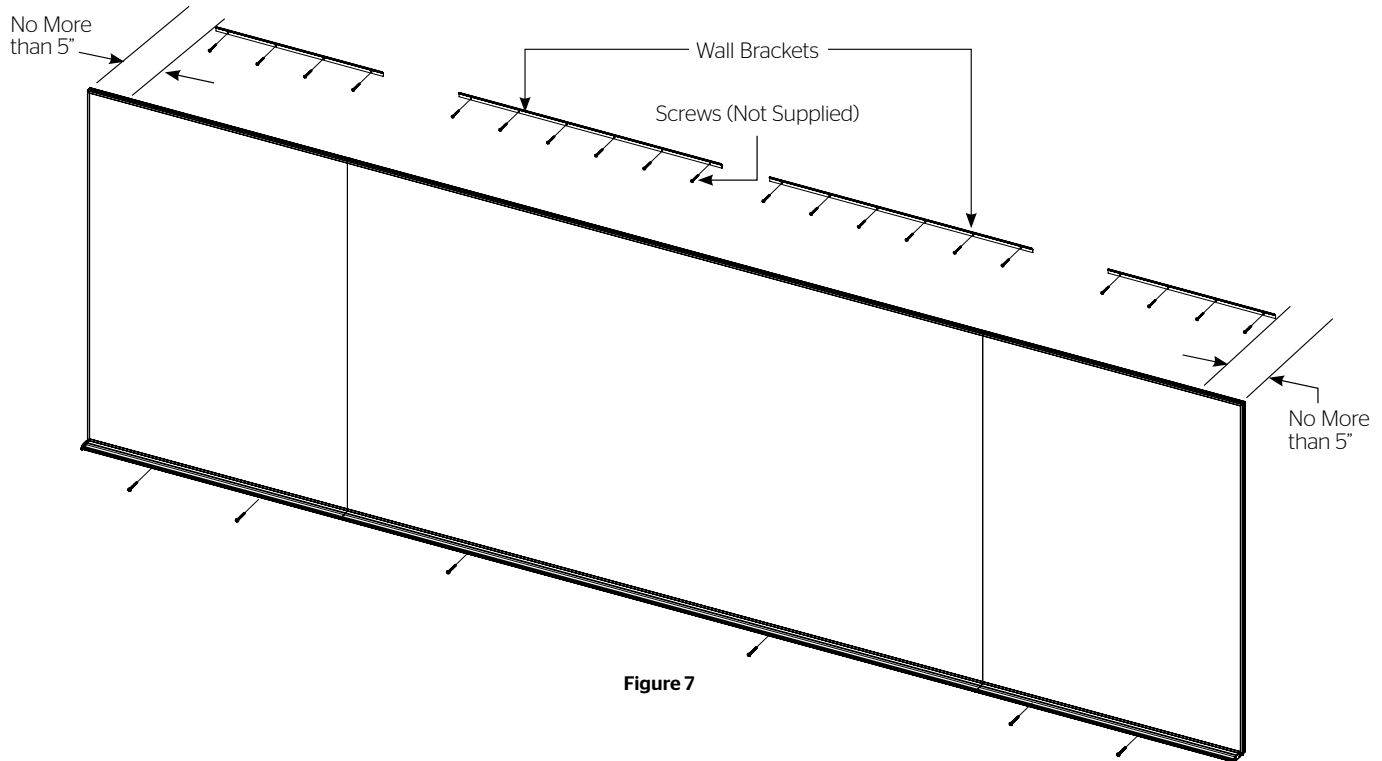

Figure 7
2. Secure the two side panel wall brackets to wall studs at the height selected in Step 1. Each side panel wall bracket should be centered between the seam brace and left or right outside edge of the frame when mounted to the wall (Figure 7).